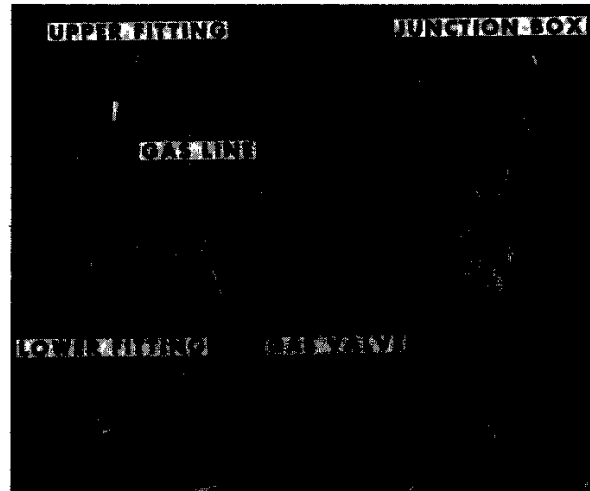
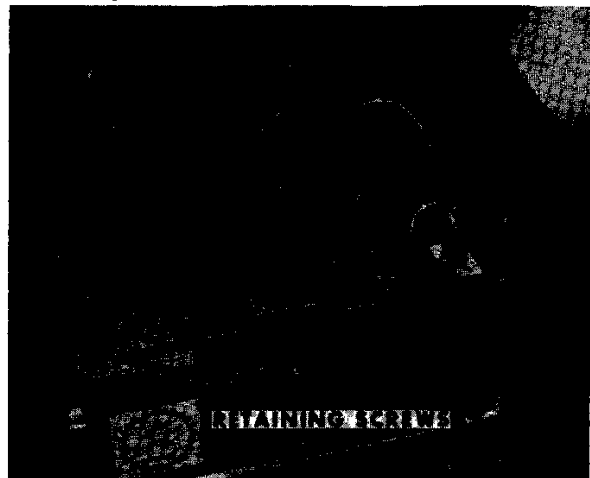

Figure 6 — Disconnecting Furnace Gas Line
Figure 8 — Removing Combustion Chamber Assembly Retaining Screws
4. Disconnect gas line lower fitting from furnace gas valve (Figure 6). Loosen gas line upper fitting. Rotate gas line 90° to allow for removal of combustion chamber assembly (Figure 8)
5. Remove cover from junction box (Figure 6).
7. Remove two combustion chamber assembly mounting screws (Figure 8).
2. Install two combustion chamber assembly retaining screws (Figure 8).
5. Connect gas line to furnace gas valve (Figure 6). Tighten upper and lower fittings on gas line.
2. Disconnect gas line from gas valve (Figure 6).
3. Connect gas line to gas valve (Figure 6).